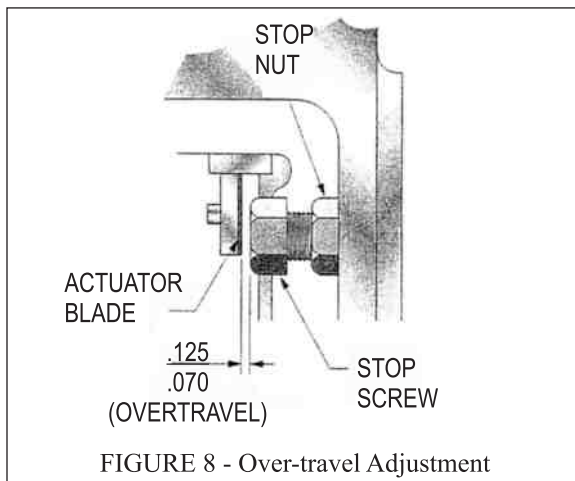

FIGURE 8 - Over-travel Adjustment
3. Check the clearance between the actuator blade and the head of the cap screw at the moment of switch actuation. This clearance or over-travel should be between .070" and .125". If not correct, loosen stop nut, reset cap screw, and retighten stop nut. The point of switch actuation is determined by the first audible click as the actuator blade is moved by hand toward the cap screw. See Figure 8.